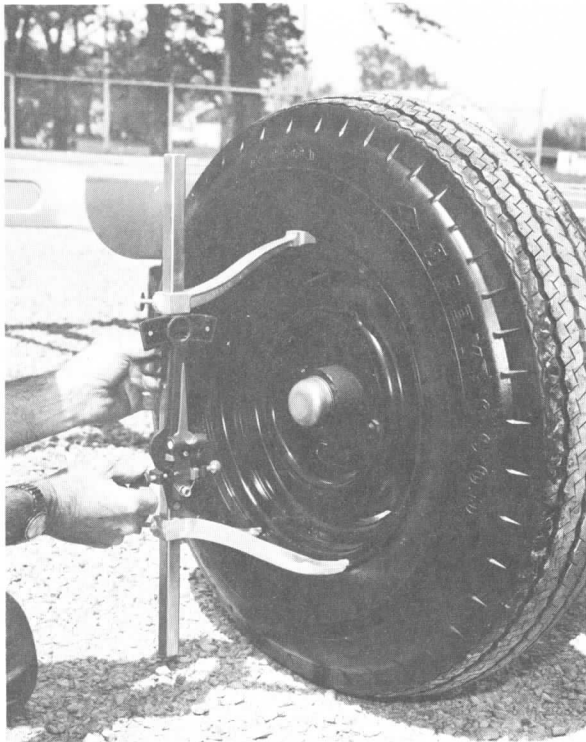

Fig. 19
7. Checking camber: If chalk mark occurred in Step 2, it should be at front or rear. Any standard automotive type camber gauge may be used to check camber. Ammco Model 7825 shown. (Fig. 19) Follow instructions furnished with gauge.
AMMCO CAMBER GAUGE Model No. 7825 (Fig. 19)